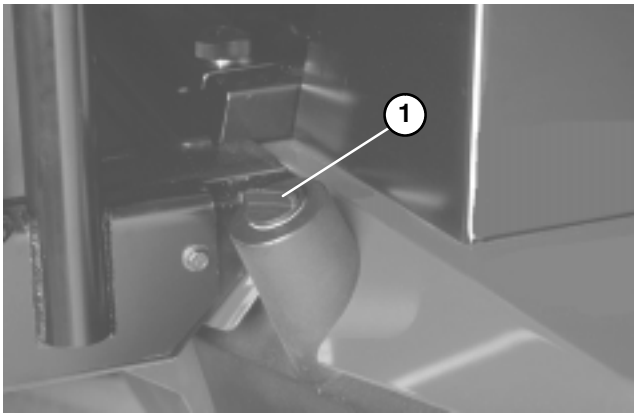

Figure 17
2. Clean area around filler neck and cap of hydraulic tank (Fig. 17). Remove cap from filler neck.